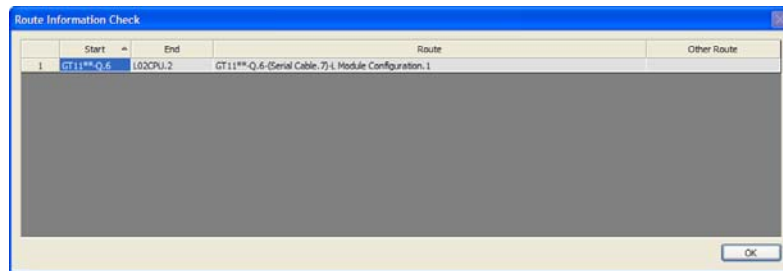

Figure 38 – Routing Information
- f. From the Navigator, select “**Workspace -> Parameter -> Route Information/Routing Parameters**” and the proper routing information will then be generated showing where the system label data is originated as shown in Figure 38.